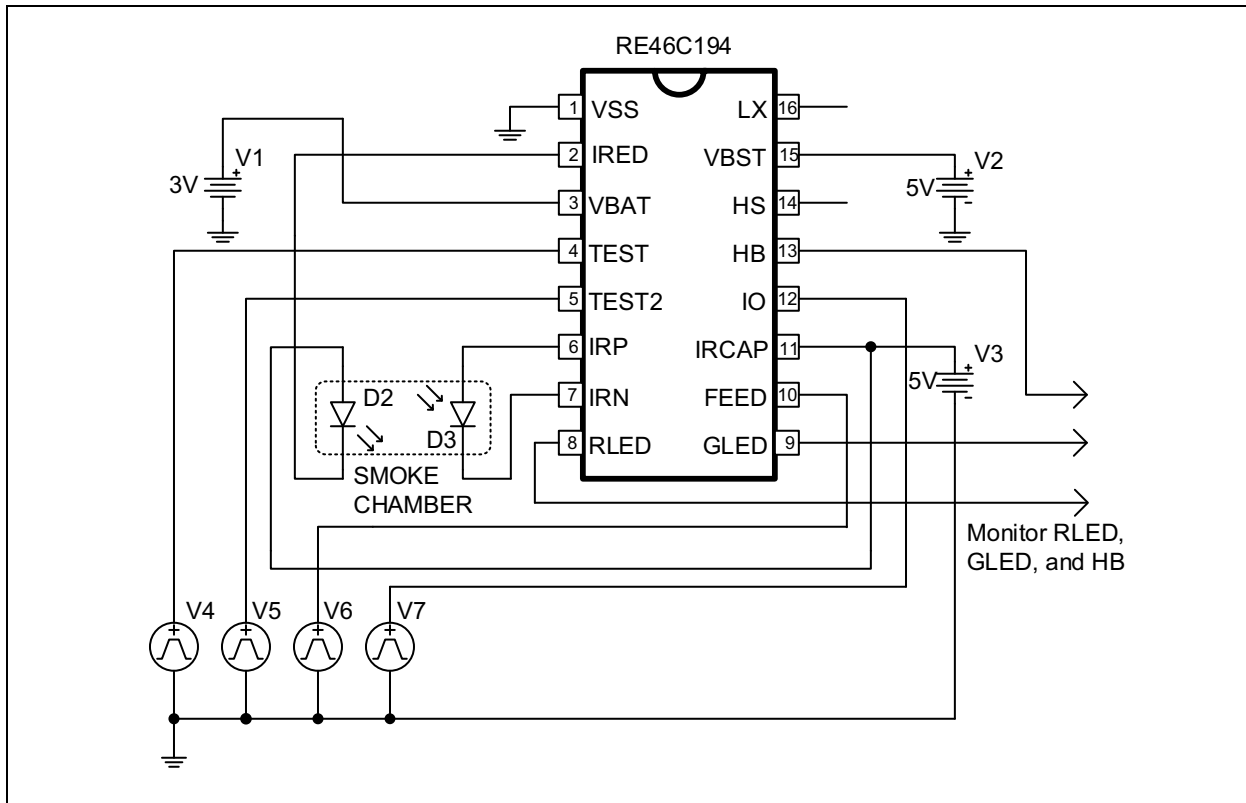
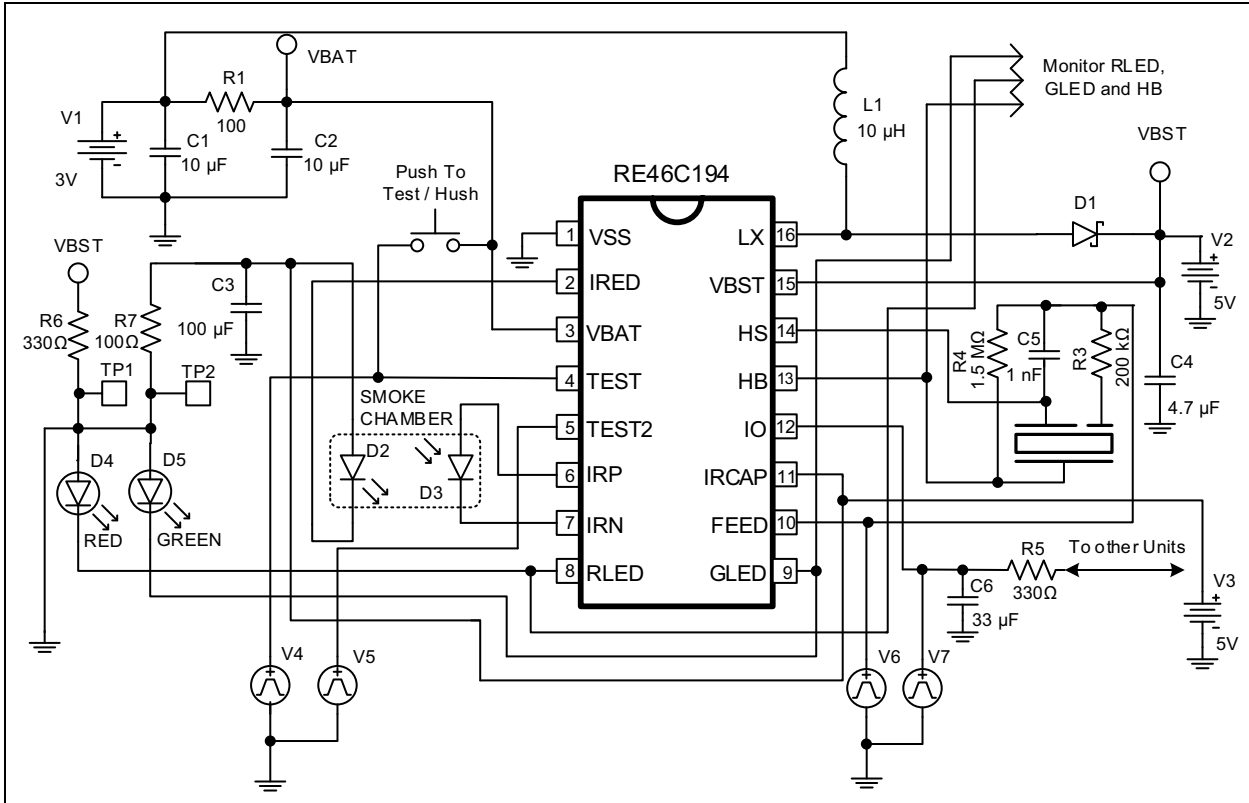

FIGURE 4-3: Nominal Application Circuit for Programming RE46C194.
FIGURE 4-5: Circuit for Programming in the Typical Application.
1. Power up with bias conditions as shown in Figure 4-3 or Figure 4-5.
1. Power up with the bias conditions shown in Figure 4-3 or Figure 4-5. VBST should be connected to 5V through a diode, so VBST can enter High Boost operation.
1. Power up with the bias conditions shown in Figure 4-3 or Figure 4-5.